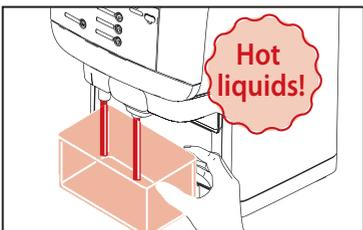

Fig.5
6. Place a 3 liter container (See Fig.5) under the drink outlets, then press **ENTER** (See Fig.4). When final flushing is finished, the dispenser is now ready for normal dispensing again.